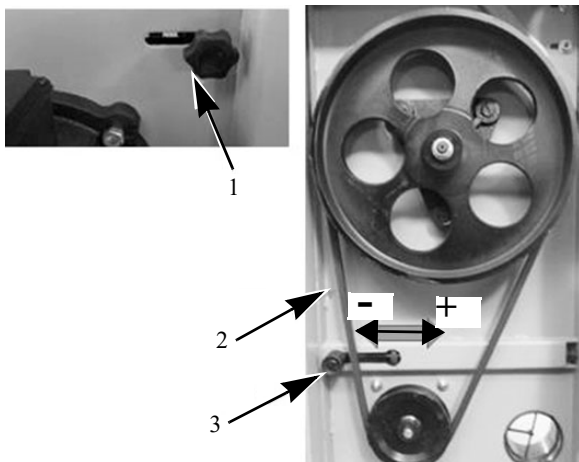

Fig. 19: Tensioning the drive belt
The tension on the drive belt (Pos. 3, Fig. 19) can be changed by means of the tensioning pulley position (Pos. 2, Fig. 19).
- Loosen the clamping screw (Pos. 1, Fig. 19).
- Fix the position of the tensioning pulley by tightening the clamping screw (Pos. 1, Fig. 19).